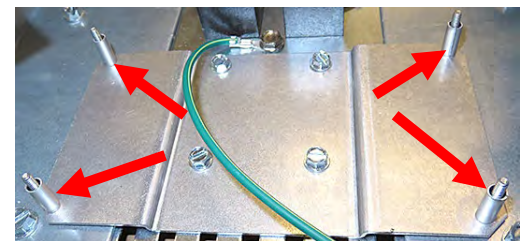

Figure 16
19. Slip the supplied spacers over the studs of the new bracket (see Figure 16).